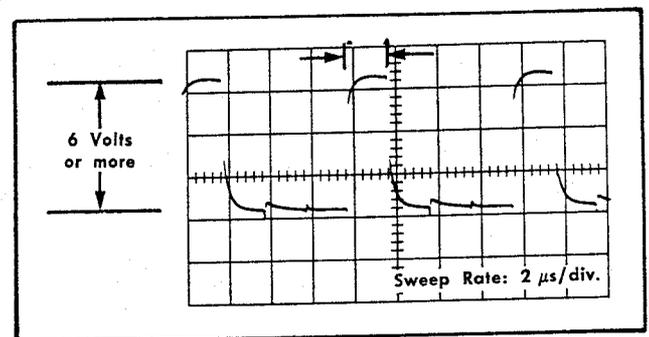

Fig. 7-13. Type 3A74 Ring Counter sync pulse as displayed on the test oscilloscope CRT. Vertical deflection factor: 2 volts/div.
e. Check Ring Counter sync pulse. The waveform should consist of positive-going pulses which have a duration of about  $2 \mu\text{s}$  and an amplitude of about 6 volts or more (see Fig. 7-13).